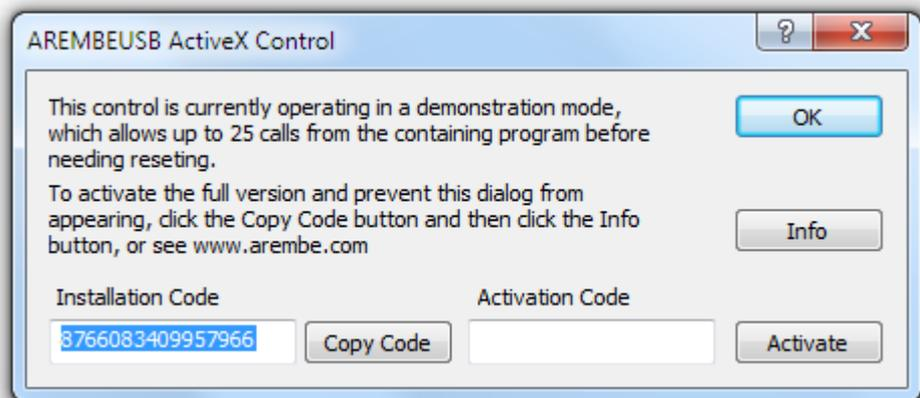

Figure 2-5, Activation Dialog
When first installed the AREMBEUSB control functions in a demonstration mode, in which it is fully functional except that there is a limit of 25 data transfers between the board and the computer before the control needs reinitializing. This allows the user to test that the control will work in the intended application before purchasing an activation code. If the demonstration mode is active, the dialog shown in figure 2-5 will be displayed.
When this happens, click the **OK** button and then refresh the page in Internet Explorer (F5 key or the refresh button). The dialog shown above in figure 2-5 will be shown again. Click **OK** to continue.
- 1) When the dialog shown in figure 2.5 is displayed, write down (or click the **Copy Code** button to copy the code to the Windows clipboard, and paste into another document) the **Installation Code**
The dialog shown in figure 2.5 will be displayed again.